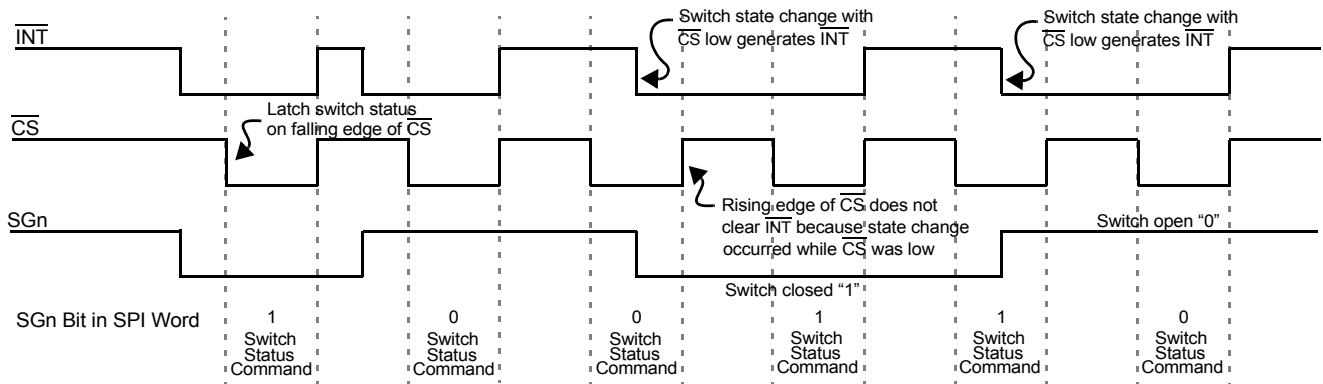

Figure 6. Normal Mode Interrupt Operation
1. \overline{INT} pin is reset to logic [1], except when additional switch changes occur during \overline{CS} low (see Figure 6, page 11).